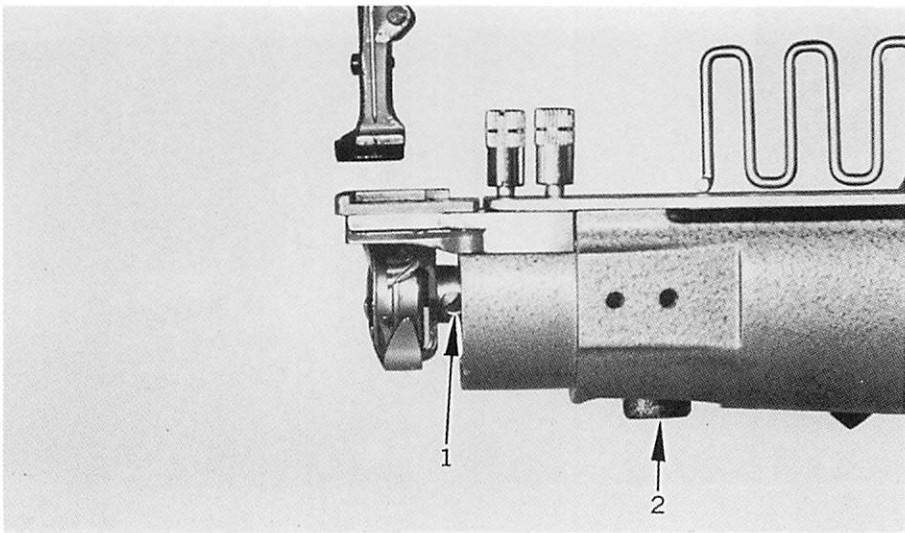

Fig. 19
2. Adjust the feed motion to the maximum and loosen the screw (2, Fig. 19) with a hexagon wrench (standard accessories).
4. Securely tighten the screw (2, Fig. 19)
\* TIMING AND THE CLEARANCE ADJUSTMENT (Fig. 19)